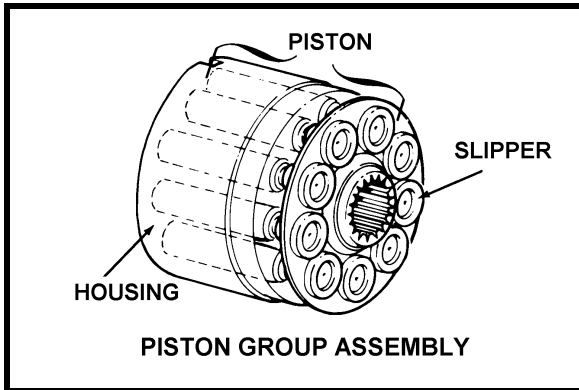

Figure 4
**The piston group assembly. (Fig 4)**